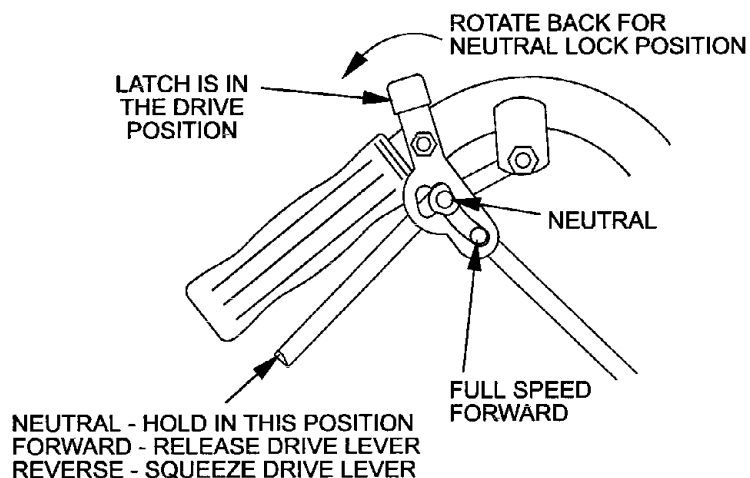

FIG. 4
- 4.1.1 Drive Levers: Located on each side of the upper handle assembly directly below the handle grips (See Figure 4). These levers individually control the speed and direction of each drive wheel. When the speed control lever is moved out of the neutral position and the lock latches are moved into the drive position, as shown in Figure 4, and the drive levers are released, the drive wheels are engaged in the forward direction.
- 4.1.2 Neutral Lock Latch: Located directly above the drive levers. These latches allow the operator to lock the drive levers in a "neutral" position where neither of the drive wheels are engaged in either a forward or reverse direction. See Figure 4.
- 4.3.3 Drive Lever/Neutral Lock Latch Operation: To lock the drive levers in neutral, squeeze the drive levers back to the neutral position (**Do Not** squeeze the drive levers all the way back as this will cause the drive wheels to go into full reverse direction). Place thumbs on the upper portion of the neutral lock latches and move them to the rear. Release drive levers (See Figure 4).
To back up, squeeze both drive levers into the reverse position (See Figure 4).